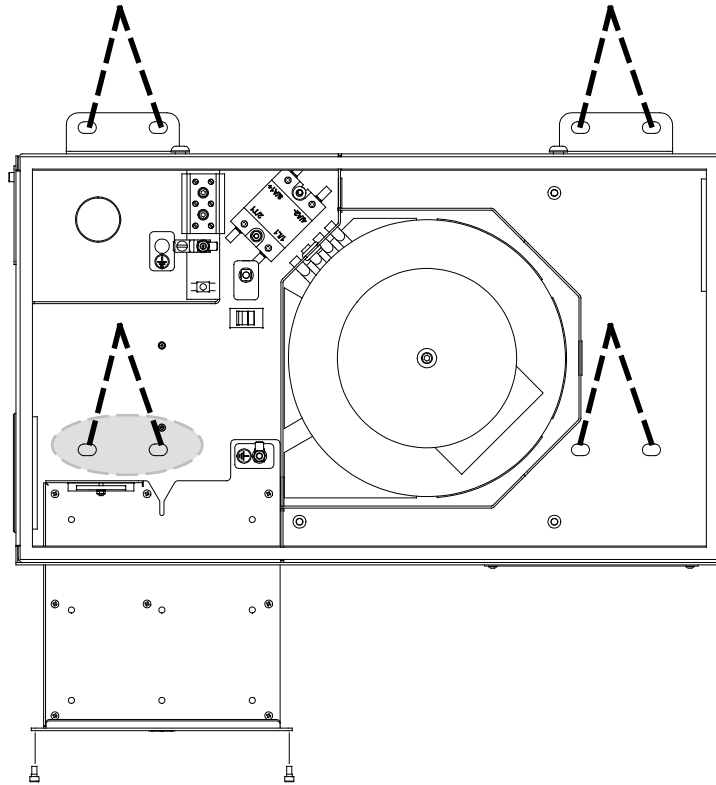

Figure F-7 Bolt hole location on the transformer base
1. See Figure F-7. Mark the bolt pattern on the parent machine or support structure and then drill holes for four 8 mm ($\frac{5}{16}$ in.) mounting bolts (customer-supplied).